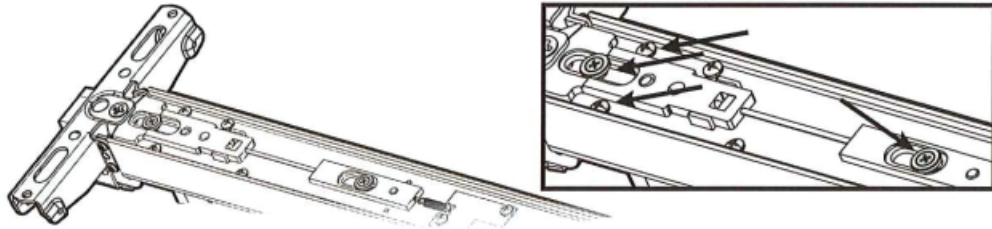

Figure 1 Four-screw removal (Option "P" base device)
- Remove the four (4) screws holding the trim slide, latch assembly, and connecting slide in place. See Figure 1 on the next page.
- Remove the screws holding the trim slide, latch assembly, and connecting slide in place. See Figure 1.
- Remove the screws holding the trim slide and latch assembly in place. See Figure 1.